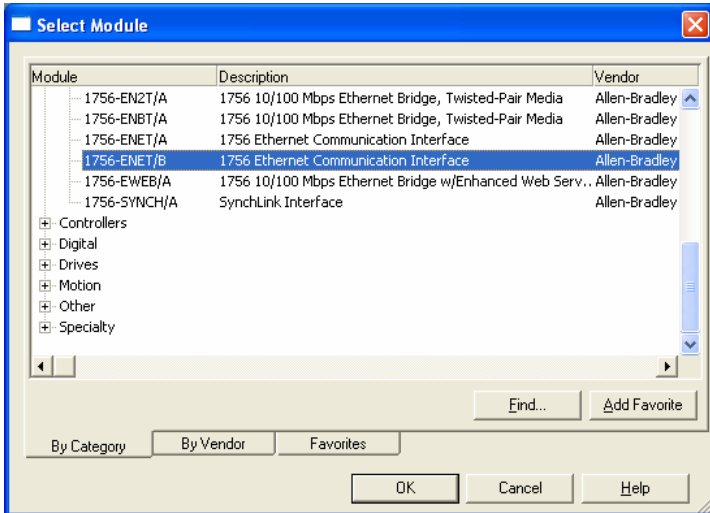

Figure 38: Adding a New Module
- c) Under “Communications”, select “1756-ENET/B”, and click OK. Refer to Figure 38.